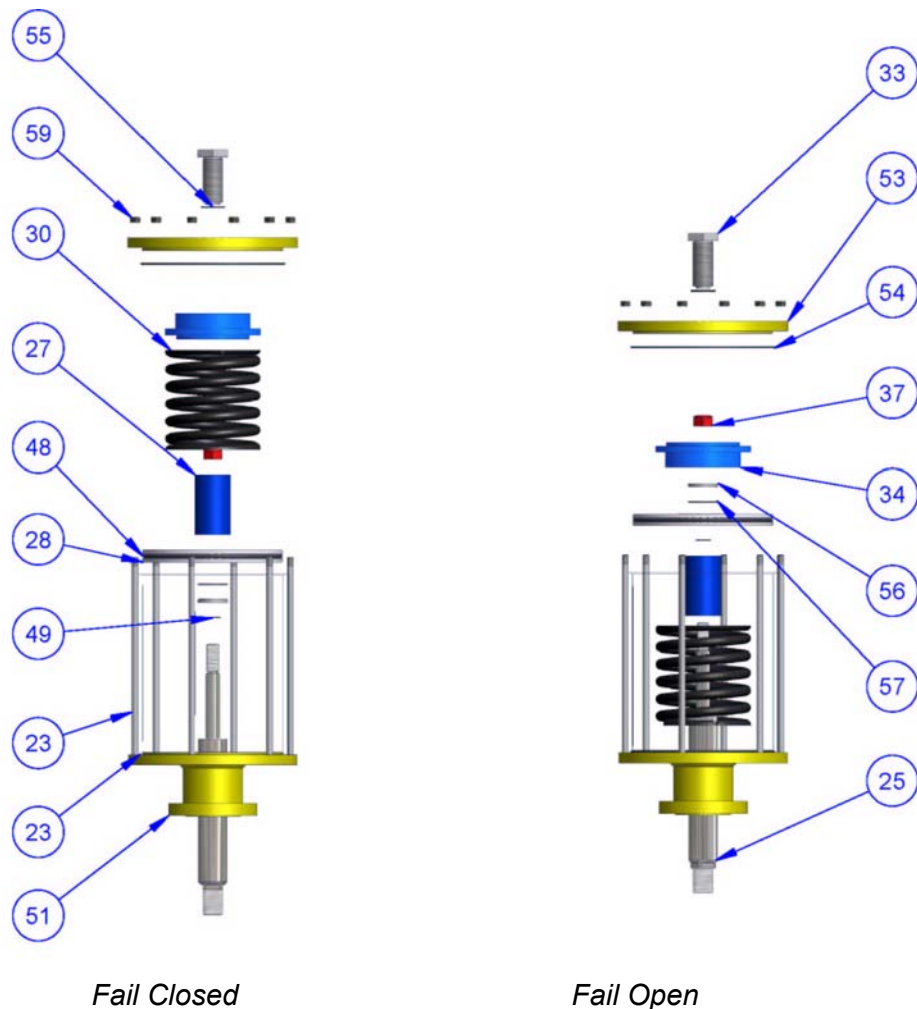

Figure 4: Cylinders with Fail Open and Fail Closed Orientation
- 10.6 Please consult figure 4 below to verify arrangement of parts.